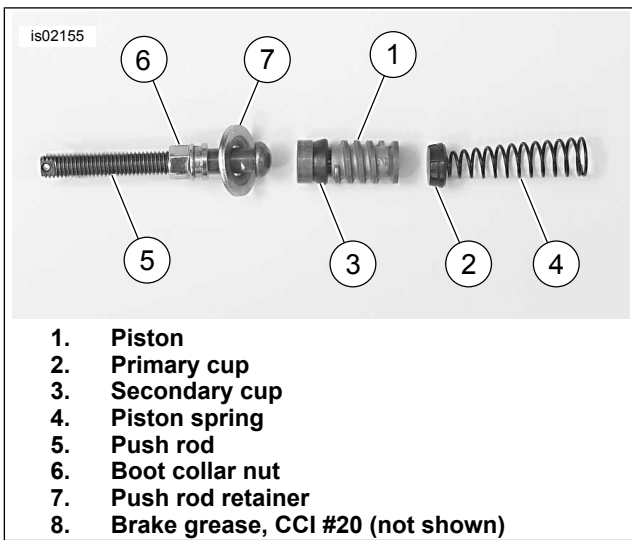

Figure 5. Rear Master Cylinder Piston, Push Rod, and Spring
5. See Figure 5. Install new primary cup (2) onto small end of new piston spring (4) with open end of cup facing spring. Slide piston spring with primary cup into master cylinder bore with large end of spring facing down.
6. Insert piston (1) with secondary cup (3) into cylinder bore with flat end of piston facing primary cup.
7. Apply approximately 0.1 g of G40M brake grease to ball end of push rod (5). Insert ball end of push rod into cupped end of piston.